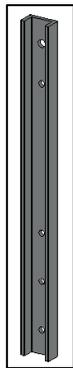

FIG. 4 - MOUNTING STRAP (4 QTY)
2. MOUNTING STRAP (shown in FIG. 4)